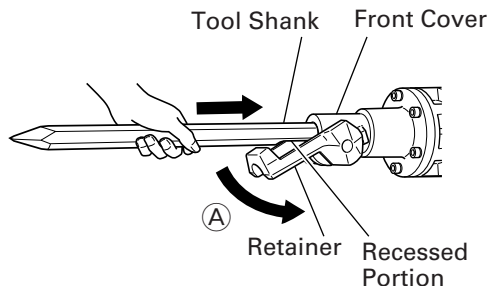

Fig. 5
- (1) Clean, then smear the accessory shank portion with grease or machine oil.
- (2) Move the retainer to position (A). Align the accessory shank portion so that its recessed portion is under clamp and seat the accessory such as a bull point, a cutter, etc., in the hexagonal hole in the front cover (See Fig. 5).